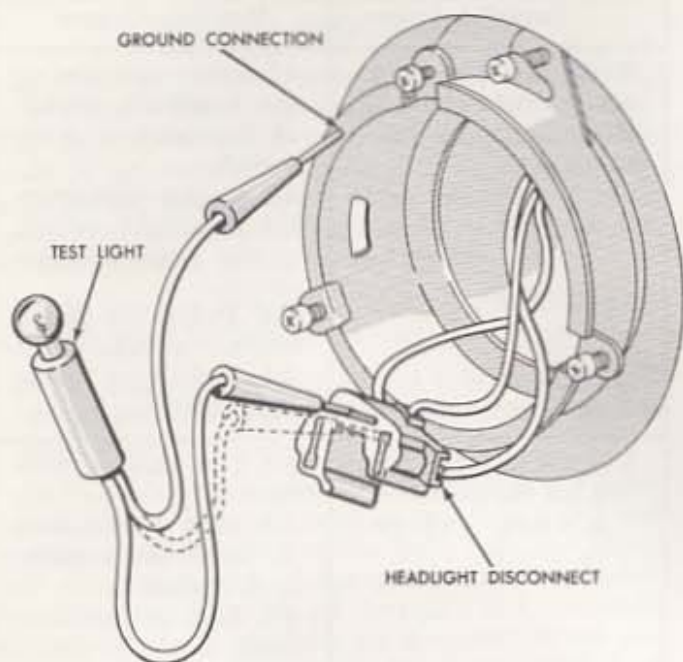

Fig. 16—Headlight Disconnect
- 1-3. Check for power at the low beam terminal in the disconnect (Fig. 16). If there is power, move the ground connection to the disconnect ground terminal. If there is no power, the ground is bad. Continue the test for power.